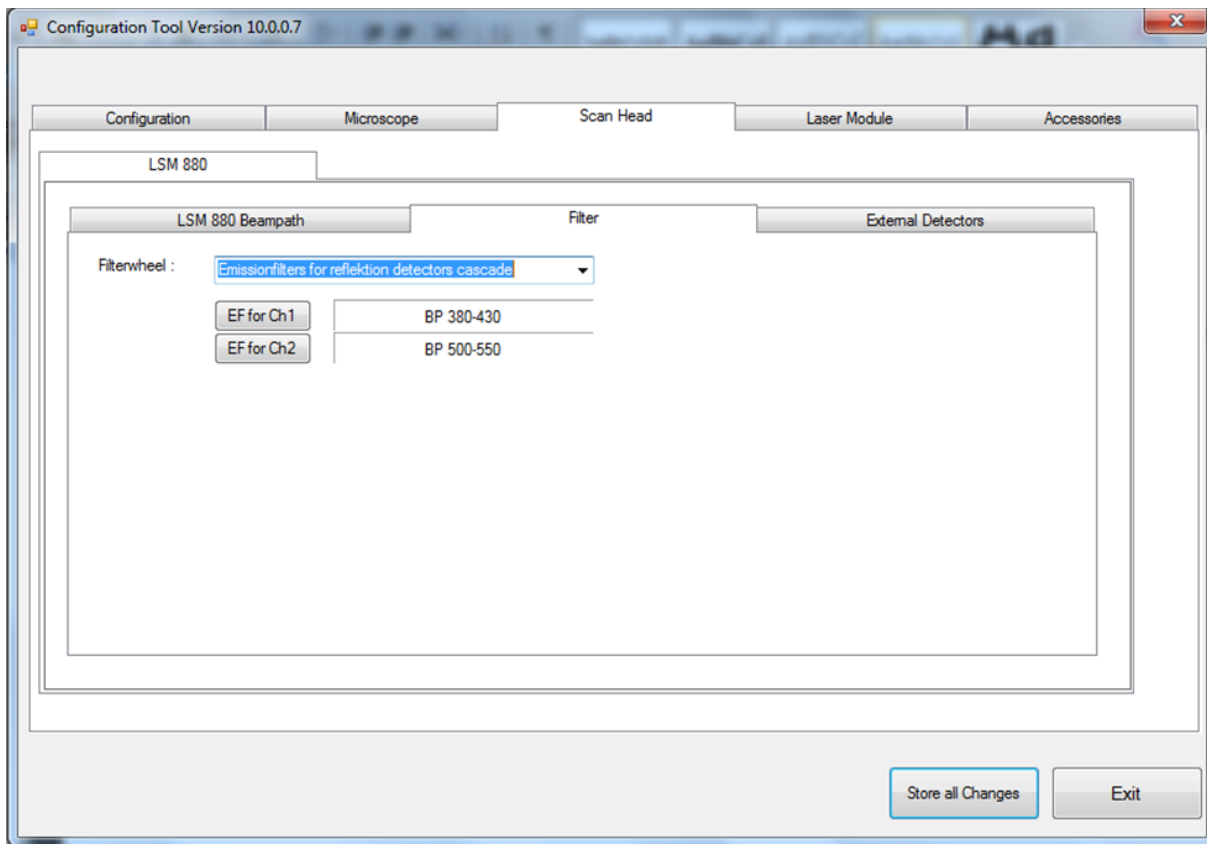

Fig. 10 Configuration Tool with tabs selected for access to filter settings
- Within the appearing window (Fig. 10) choose the tabs **Scan Head**, **LSM 880**, **Filter**.
After selecting the "Filterwheel", the current filters are indicated each with a button next to it referring to the detection channel it is effective for (Fig. 10).